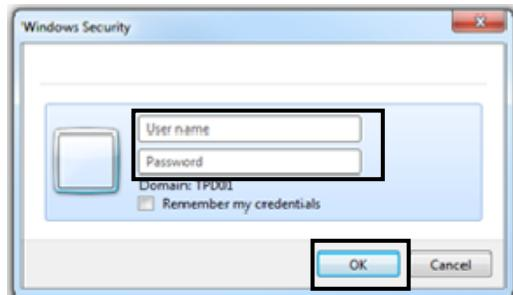

Fig 39. Windows Security Login Window
3. On the “Windows Security” login window, enter “admin” (all lowercase letters) in both the “User Name” and “Password” fields. Then, click “OK” (Fig 39).